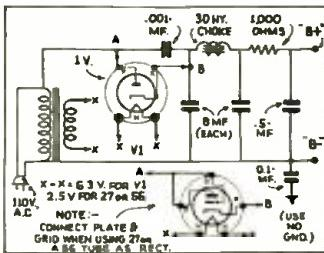

Fig. 8. A.C.-D.C. set change.
**U**SING FILAMENT TRANSFORMER. A small transformer used instead of a series resistor in A.C.-D.C. sets has many advantages. The tubes heat much more quickly and the total current drain is less than half. The new circuit appears in Fig. 8. The transformer may be very small, since the power needed is only around 15 W. for the filament circuit. Of course with this change, the set will only operate on A.C. Figure 8 shows how a complete